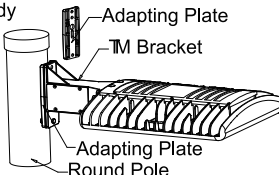

Figure 12-3
3. Notice: Round pole should be with adapting plate.(Figure 12-3)